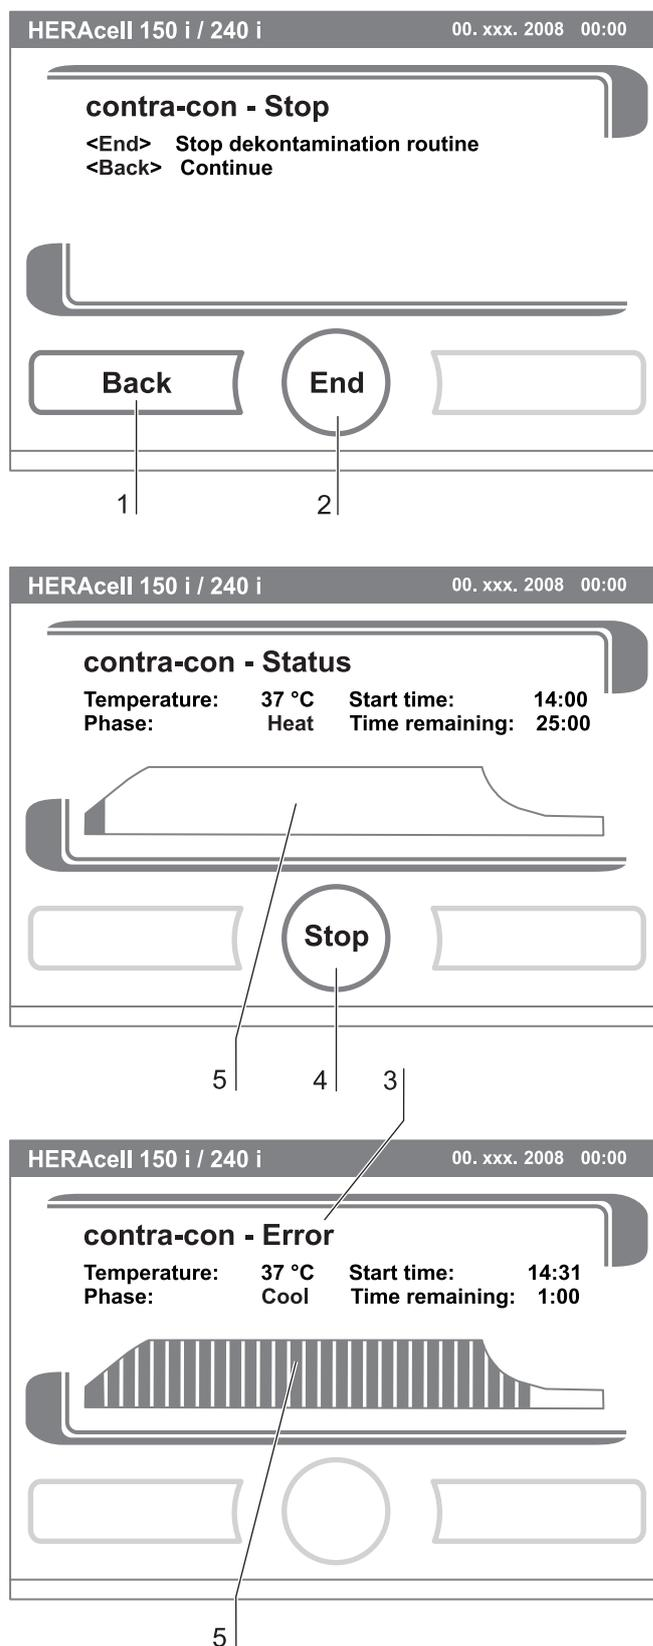

Fig. 68: Interrupting / cancelling contra-con
- ▶ **Fig. 68:** While the contra-con decontamination routine is running, the display shows the current status [5] and outputs the following information: